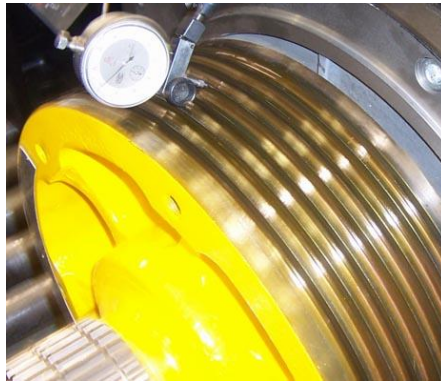

Figure 62: Groove weave and run out check
4. Test the sheave groove weave. It shall not exceed 0.12mm (0.005") and groove run out shall not exceed 0.10mm (0.004") as measured with a dial gauge. See Figure 62.